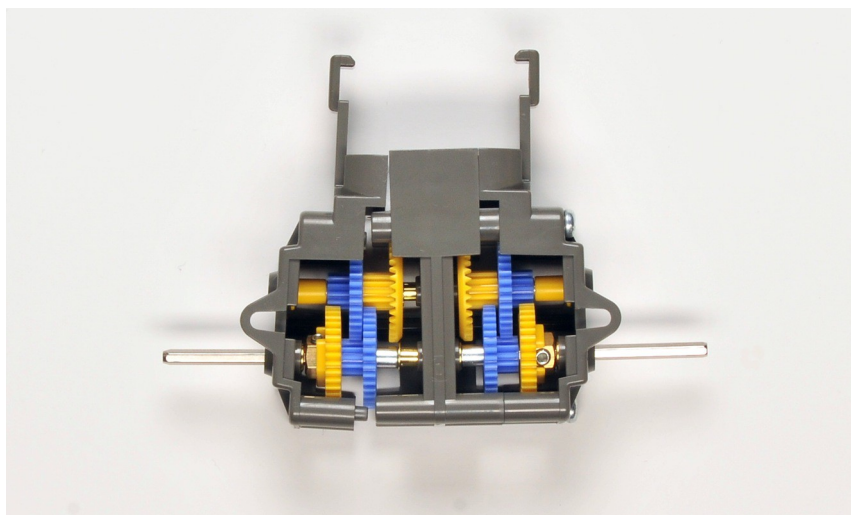

*Figure 1.23*
20. Repeat steps 2-18 for the left side of the housing. The completed left side of the gear assembly is shown in figure 1.23